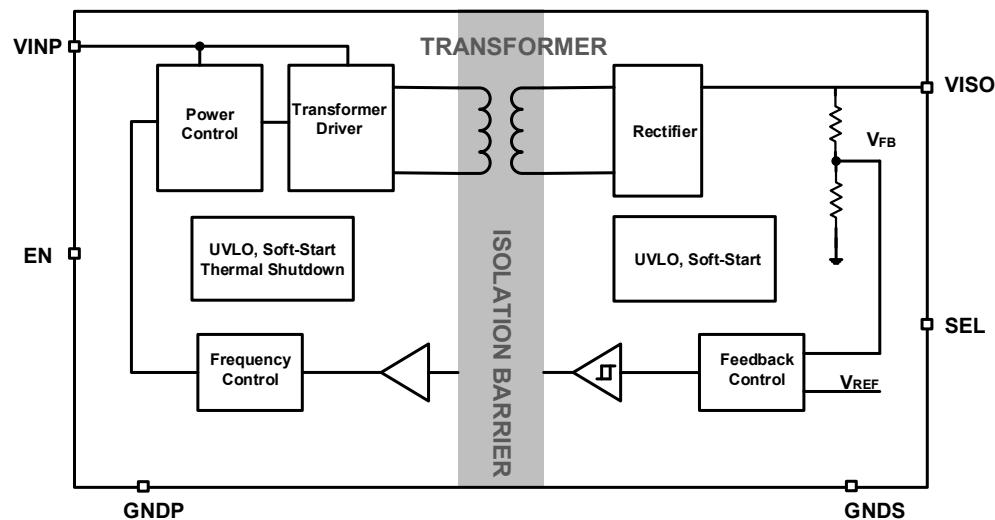

Figure 8-1. Functional Block Diagrams
The CA-IS3105W is a complete isolated DC-DC converter designed to provide isolated power with up to 650mW output power across a 5kVRMS isolation barrier. The device operates over 4.5V to 5.5V input voltage range and uses a proprietary control mechanisms. The input supply  $V_{INP}$  is provided to the primary power controller that switches the power stage connected to the integrated transformer. Power is transferred to the secondary side and regulated to a fixed output voltage set by the SEL pin. The soft-start feature allows to reduce input inrush current and avoid output overshoot. The device also incorporates an output enable (EN) control and undervoltage lockout function that allows the user to turn on the part at the desired input-voltage level. Figure 8-1 shows the CA-IS3105W's functional block diagrams. Connect the EN pin to  $V_{INP}$  or force this pin high to turn on the DC-DC converter. Force this pin low to disable the device and enter low-current shutdown mode. This device offers a ready-made, reliable, easy-to-use solution and allows users save PCB space and reduce design time for the popular 5V, 3.3V power supply systems.